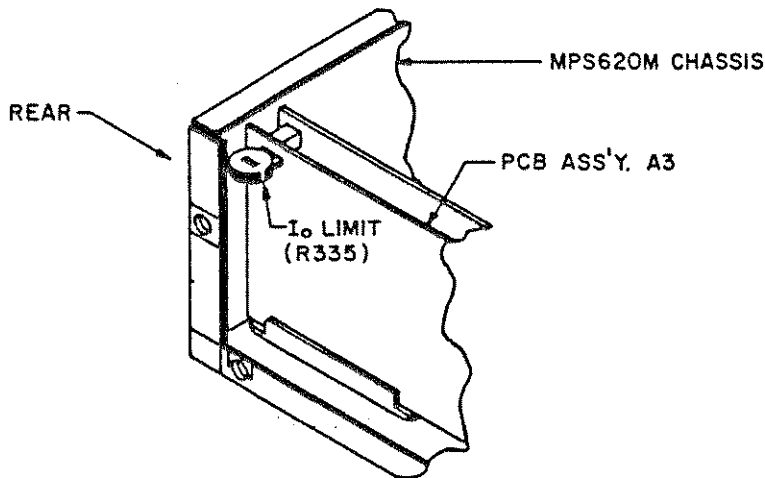

FIG. 2-3 LOCATION OF THE INTERNAL CURRENT LIMIT ADJUSTMENT FOR THE ( $\pm$ ) 20V, 1A SUPPLY
c) INTERNAL CONTROL: See FIG. 2-3.